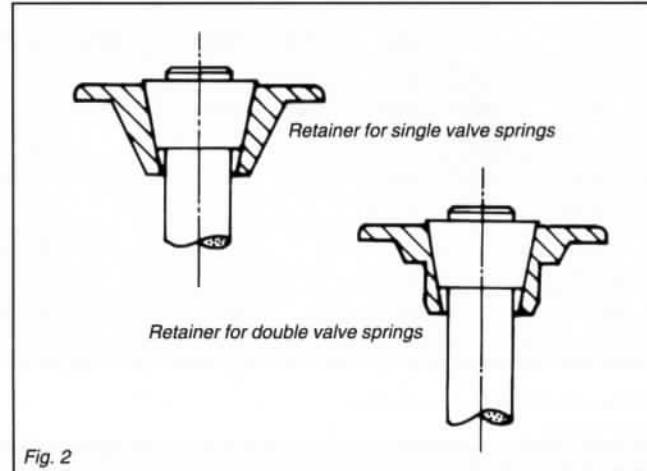

Fig. 2
7. When Double springs are being installed in place of singles, the valve spring retainer cap must be machined to accept the inner spring. (See Fig. 2.) Alternatively in most instances we are able to supply modified caps in steel or lightweight alloy.